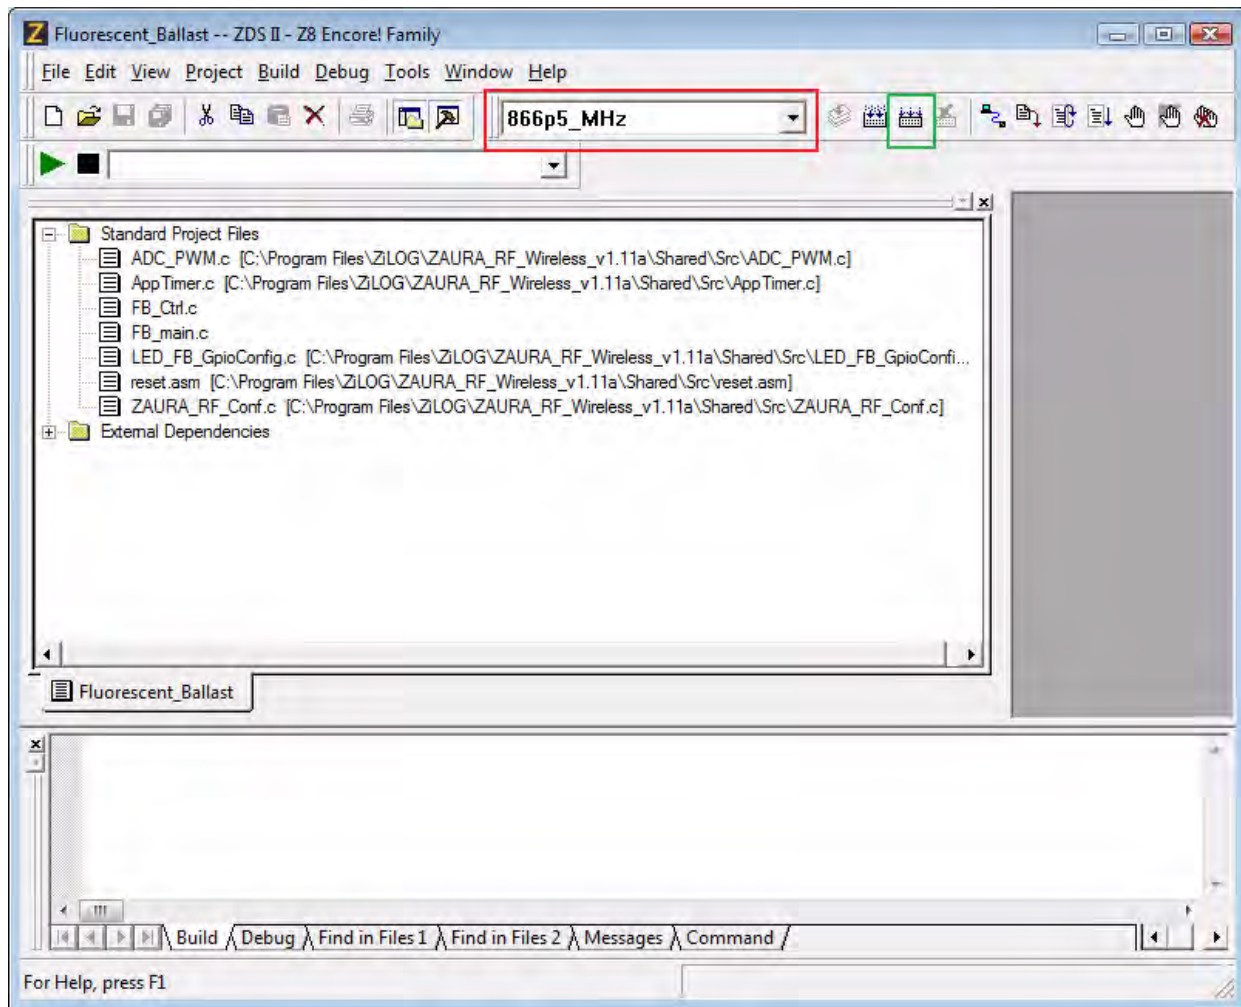

Figure 8. Build Mode Configuration
7. Select the 866p5_MHz build configuration file from the ZDSII toolbar. This menu is highlighted in red in Figure 8.
8. Click the **Rebuild All** toolbar icon, which is highlighted in green in Figure 8.